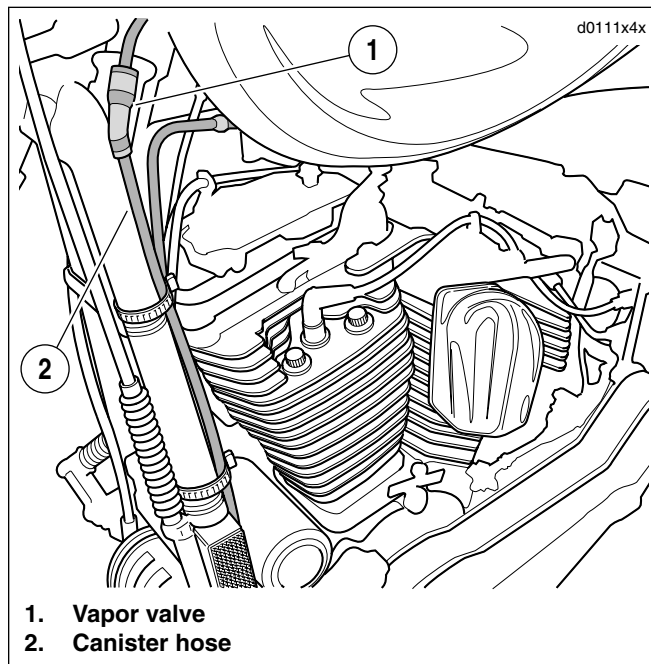

Figure 2. Vapor Valve and Hose: Dyna Models
- **Dyna models:** See Figure 2. The vapor valve (1) is located behind the steering head near the left frame downtube. No vehicle disassembly is required to remove the canister hose (2) from the valve.